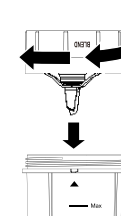

Fig. 5
- Cover & screw the blending Jar with the blending blade (4 Leaf) lid for blending (Fig. 5).